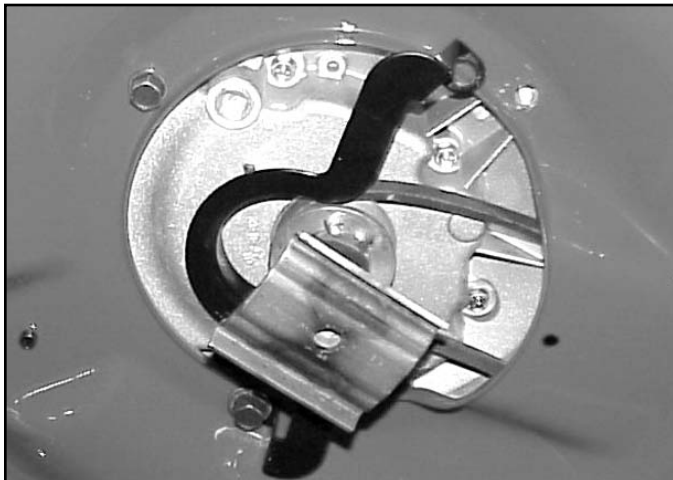

Fig 059
4. Remove one of the mounting screws for the belt guide and loosen the other. DO NOT bend the belt guide (Fig. 059).